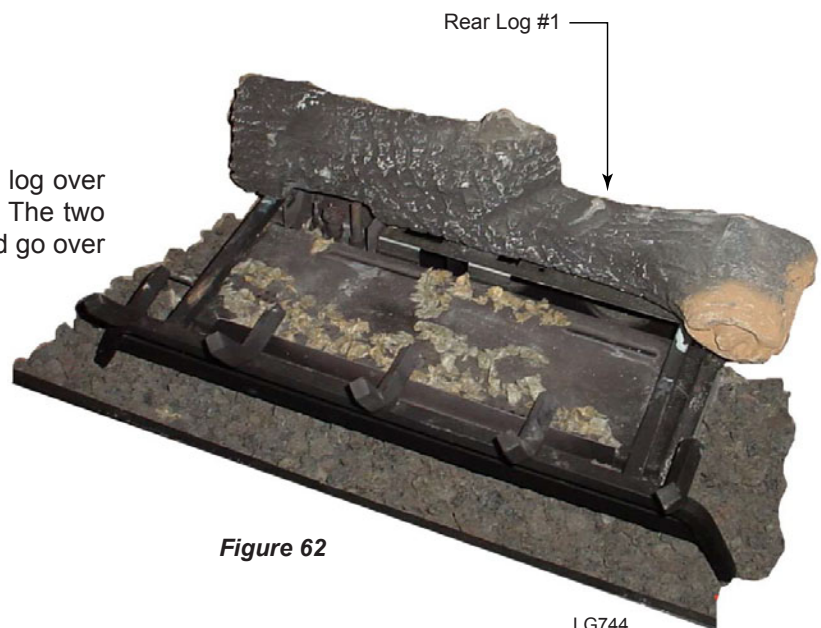

Figure 62
5. Place Rear Log #1 into place by setting the log over the two pins on the grate toward the back. The two round holes on the bottom of the logs should go over the two pins on the grate. *Figure 62*